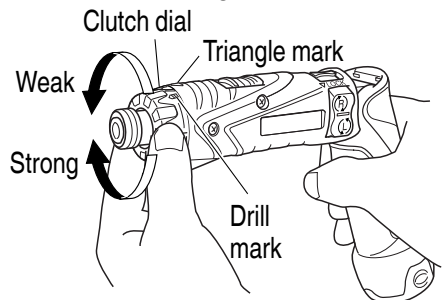

Fig. 7
6. Confirm the clutch dial position (See **Fig. 7**)
- (2) Tightening torque indication (See **Fig. 7**)
- (3) Adjusting the tightening torque (See **Fig. 7**)